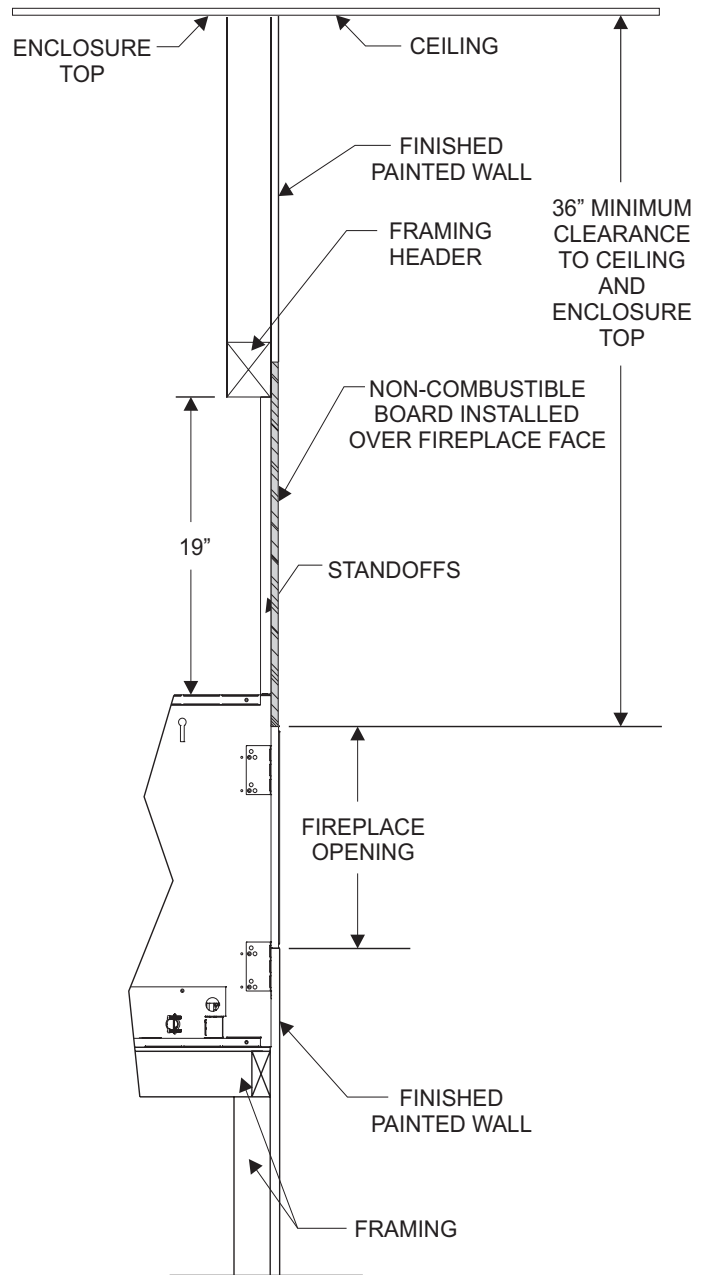

**Figure 41**
- Screws are allowed in framing and top mounting brackets. No screws are allowed into the fireplace. **See Figure 41.**